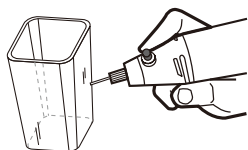

Fig. 11
- > For fine work, such as engraving, hold the product like a pen. (Fig 11).